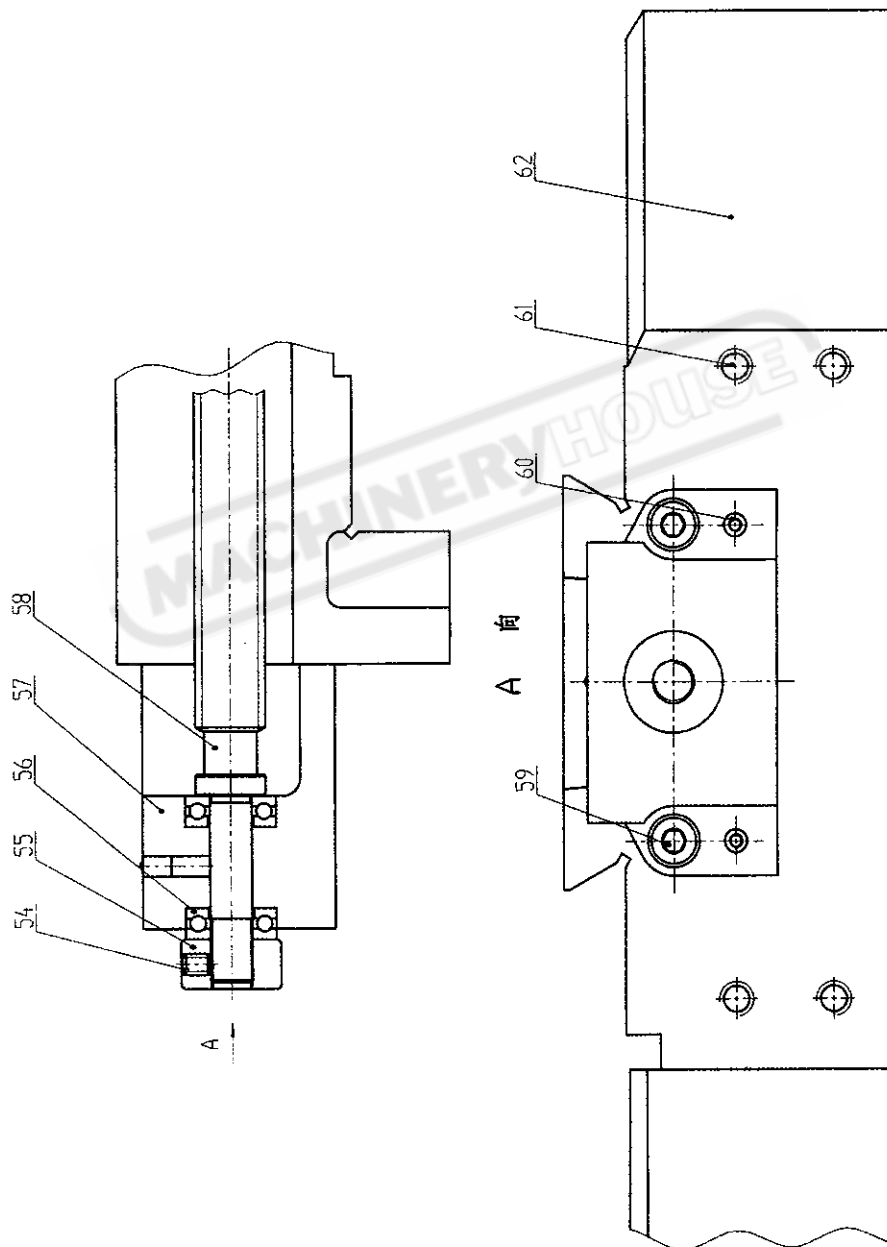
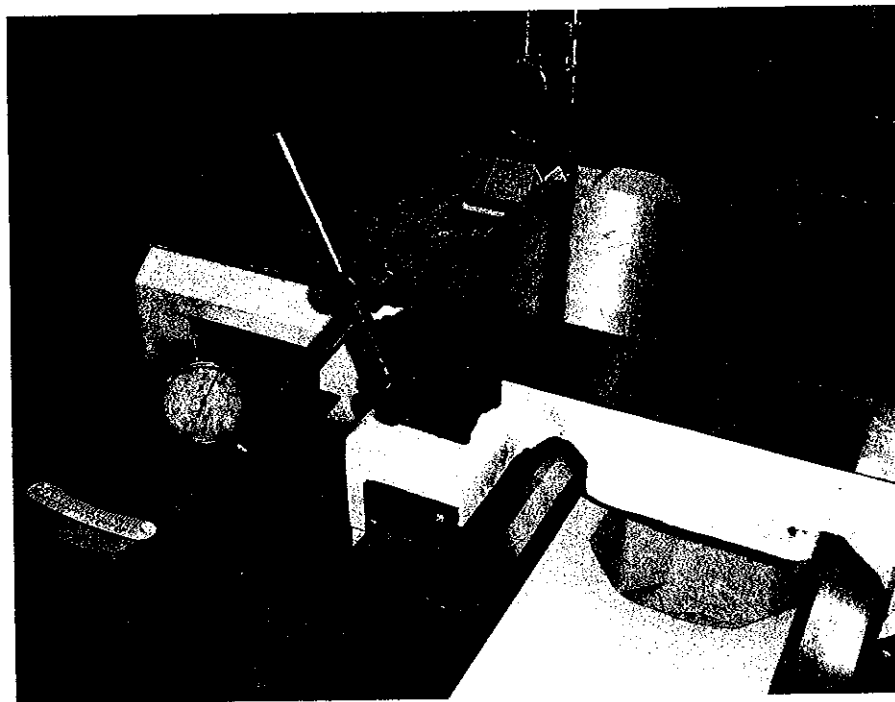

Figure 5
Figure 6
- 3.2 Loosen the socket recess set screw 54 in Figure 5, remove the nut 55; draw up the position pin 60 in A-Direction View in Figure 5, remove the socket cap screw 59 and remove the rear supporter 57 and the thrust ball bearing 56 in Figure 5 at last.
- 3.5 Mount the remaining part of the copying device into the screw hole 61 on the bed saddle 62 in Figure 5 by means of the socket cap screw 8 and the flat washer 9 in Figure 2. Take care to insert the cylindrical part of the pivot 23 in Figure 4 into the hole of the slide block 22.
- 3.7 Fix the indicator according to the way in Figure 6. Move the carriage leftward or rightward and calibrate the upper face of the profiling seat 19 to be ≤ 0.05 mm in Figure 4, drill the position pinhole $\phi 8$ on the bed saddle 62 in A-Direction View in Figure 5 by the electric hand drill and mount the spring cylindrical pin 7 in Figure 2.